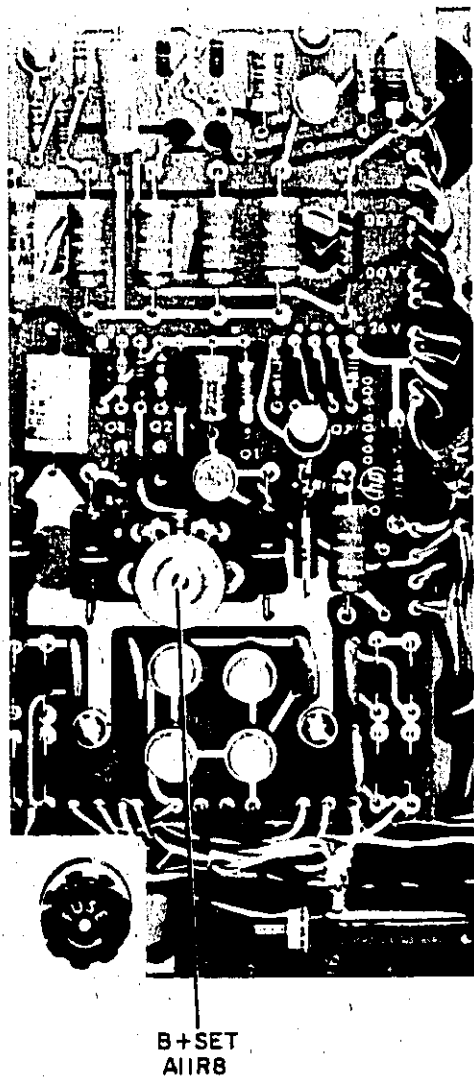

Figure 5-7. Power Supply Adjustment Location
- b. If the output voltage of the +300-volt supply is outside the limits in the table adjust B+ SET potentiometer A11R8 for +300 volts. See Figure 5-7 for adjustment location.
c. You may wish to check the regulation of the power supplies as the line voltage is varied between 103 (206) and 127 (254) volts. All regulated voltages should remain within $\pm 1\%$ over this range of line voltage.